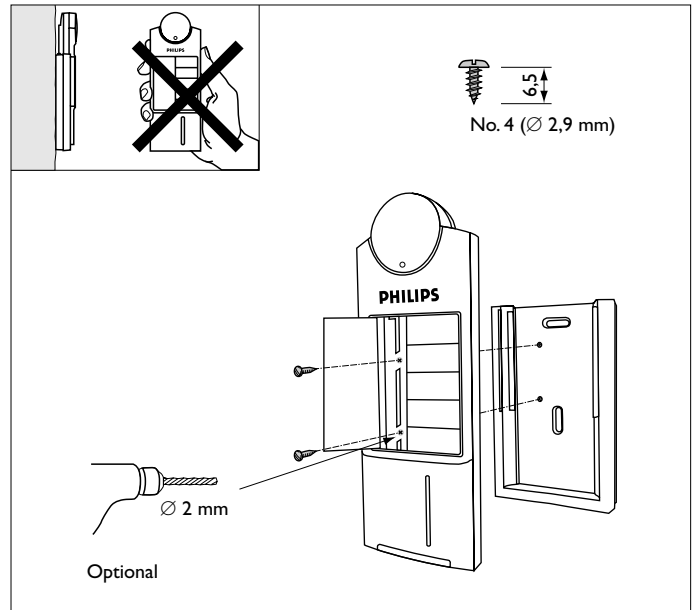

Figure 5b: locking the transmitter in the wall holder
- Fixation in wall holder : two Parker screws in battery compartment. (see figure 5b)